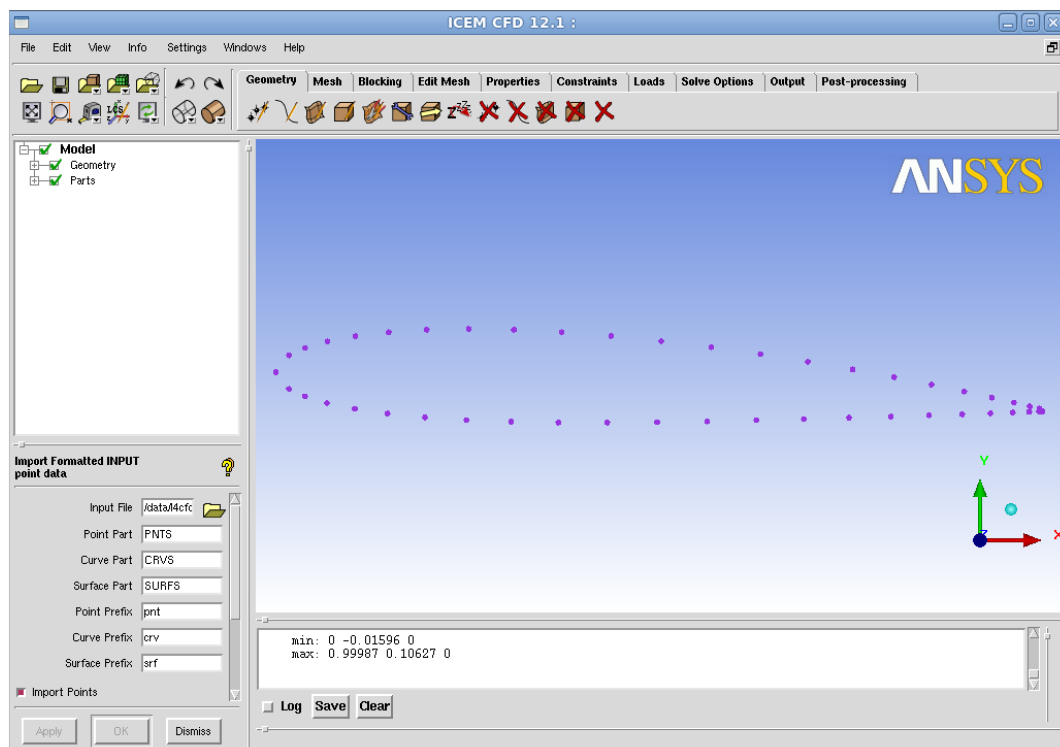

Figure 2: Point Input to *icemcfd*
- You should have a screen that looks like Figure 2: